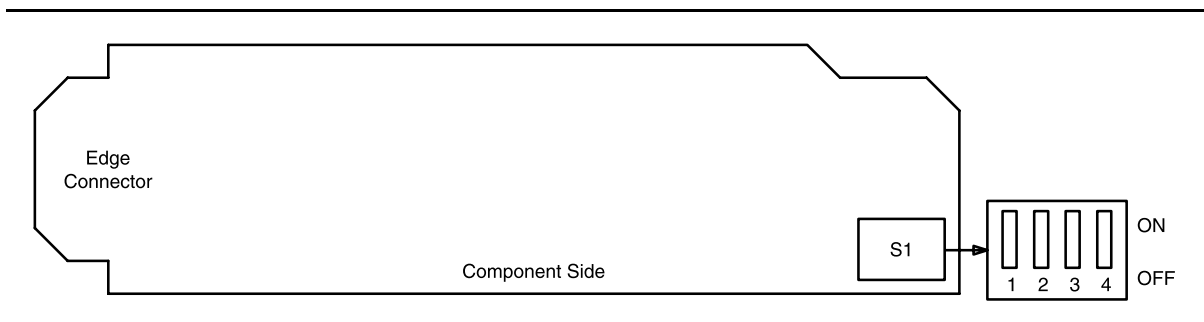

Figure 1 – BBF2 TGS Option Switch
Refer to Table C and Figure 1 and set the timing mode as required for the new **BBF2 TGS** circuit pack(s).
10. Refer to Table D and Figure 1 and set the DS1 line coding and frame format as required for the **TGS** circuit pack.